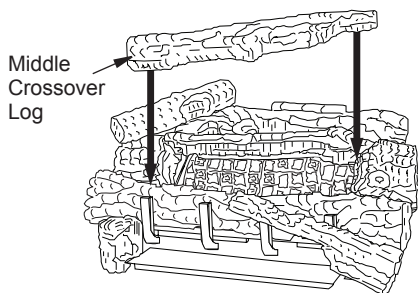

Figure 47 - Installing Middle Crossover Log
11. Rest the middle crossover log onto the right middle log and the left front log (see Figure 47). Make sure to match the projection on the bottom of the crossover log with the recess area in the right middle log and the left front log.